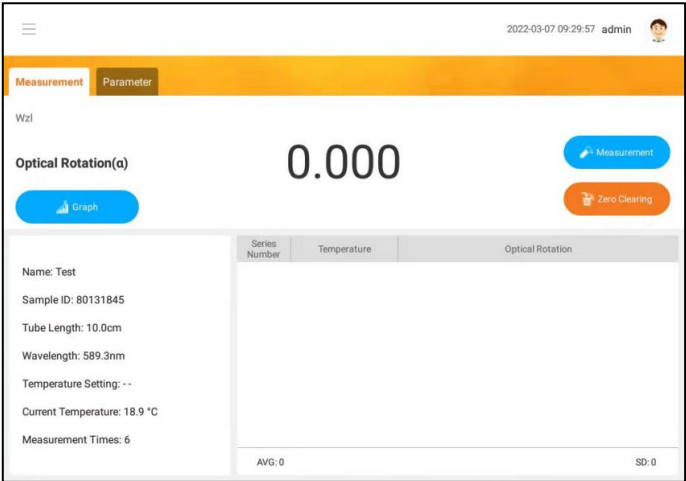

Fig. 38
2. Start the instrument and log in the user account to the following interface, as shown in Fig 38: